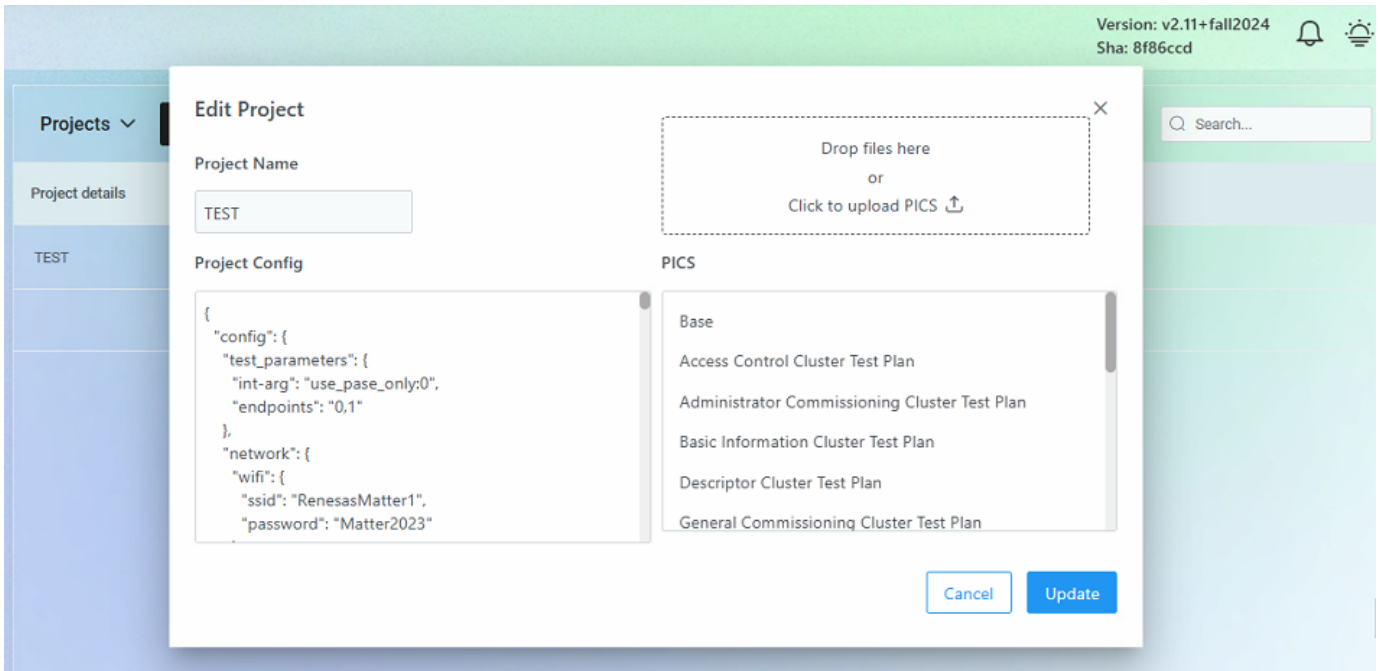

Figure 27. Edit Project dialog
2. In the Edit Project dialog, enter the project name as "Test Project" and edit the Project Config settings to provide additional details, see Figure 27.
For the case that the DUT requires a PAA certificate to perform a pairing operation, input "true" for the flag "chip_tool_use_paa_certs" in the Project Config of TH UI, as shown in Figure 27.
6. To complete the creation, click **Update** and click **Create**, see Figure 27. The newly created project is listed under the **Project details**.